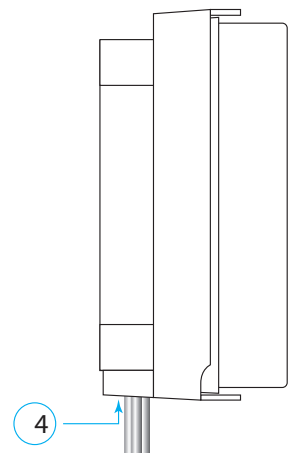

Fig. 7.5
4. Verify all the IB7000 cables exit through the opening at the cover bottom before pressing in on the cover to close. The cover will snap securely into place (Fig. 7.5).